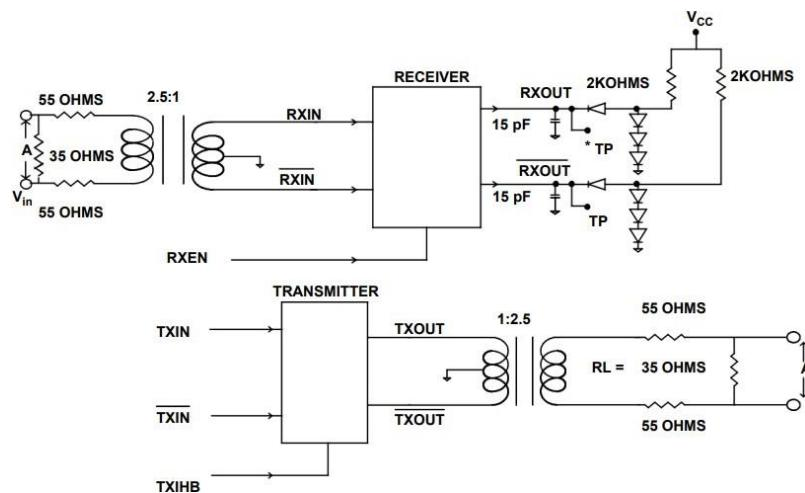

Figure 6. Direct Coupled Transceiver with Load
2. Direct Coupled Stub: Terminal is defined as transceiver plus isolation transformer and fault resistors. Point A is defined in figure 6.
1. All tests guaranteed per test figure 6.